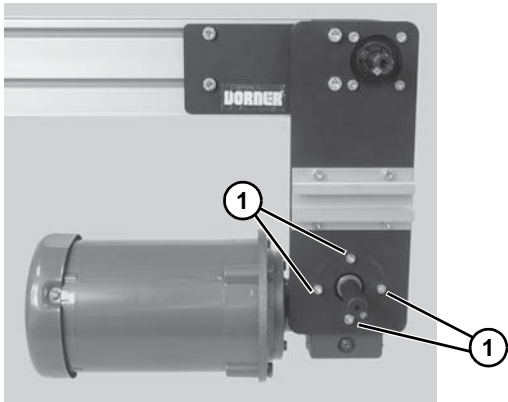

Figure 20
5. Remove four (4) gear reducer mounting screws (**Figure 20, item 1**). Remove gearmotor.
15. Install gearmotor to mounting bracket and tighten screws (**Figure 20, item 1**) to 110 in-lb (12 Nm).